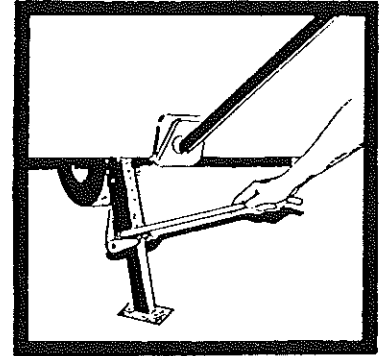

FIGURE 29
29. Press on the quick-release lever of the stabilizer jack with the jack handle and push downward slowly. This releases the stabilizer jack and the corner of the trailer will drop somewhat. See Figure 29.